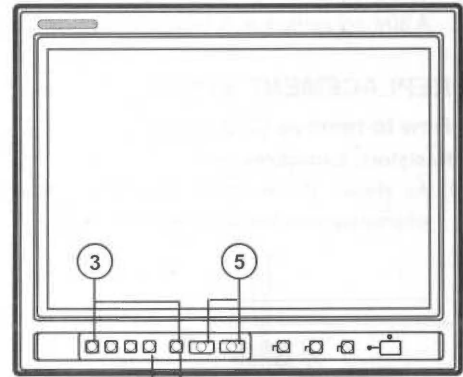

Fig. 1
(1) HOW TO ENTER THE SERVICE MENU
- ① Press **MENU** key and **CONTRAST** key simultaneously. (Fig. 1)